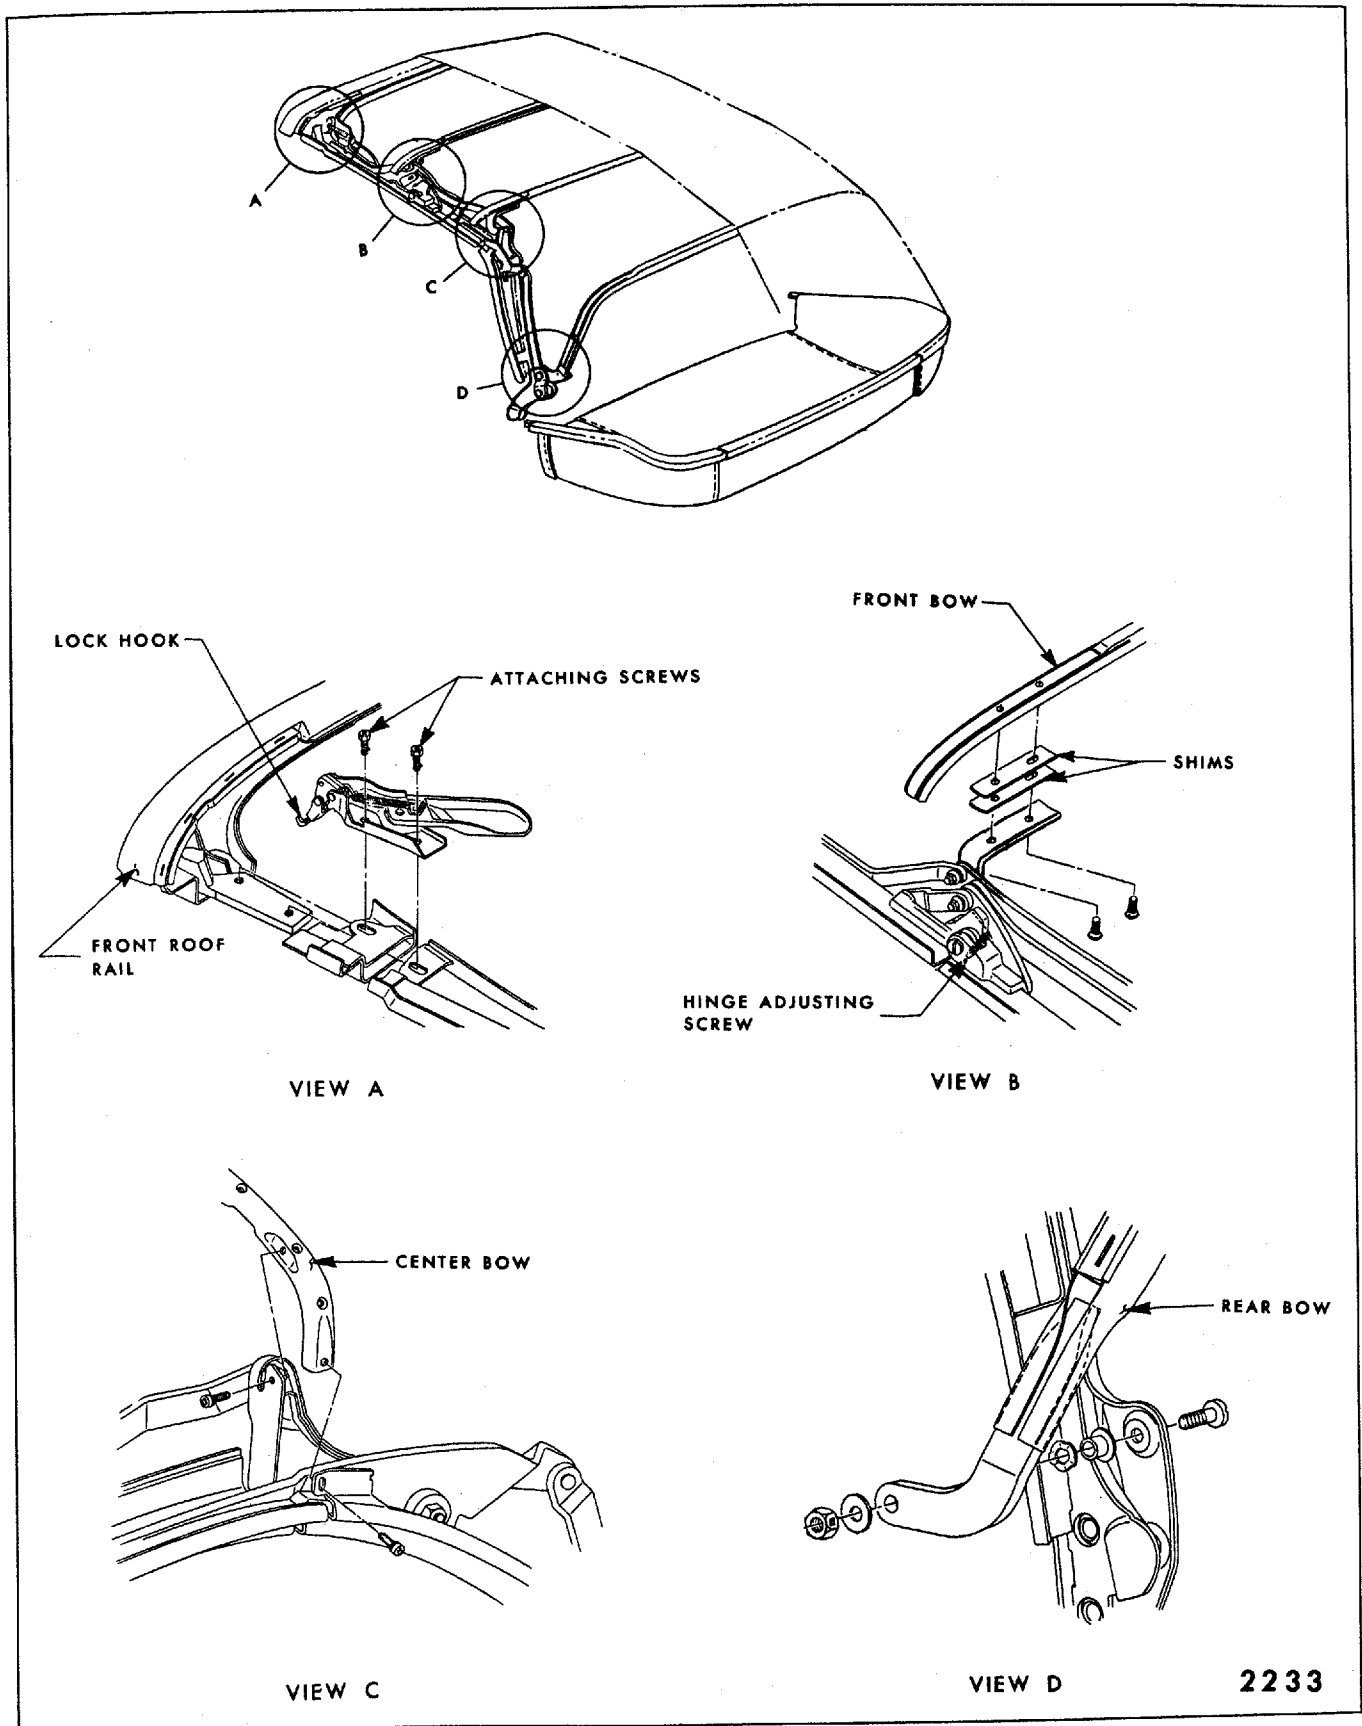

Fig. 6-90—"Z" Body Folding Top Adjustments
3. Front roof rail misaligned.	Adjust front roof rail. (View "A" in Fig. 6-90.)
2. Center side roof rail hinge adjusting screw improperly adjusted.	Adjust screw clockwise. (View "B" in Fig. 6-90.)